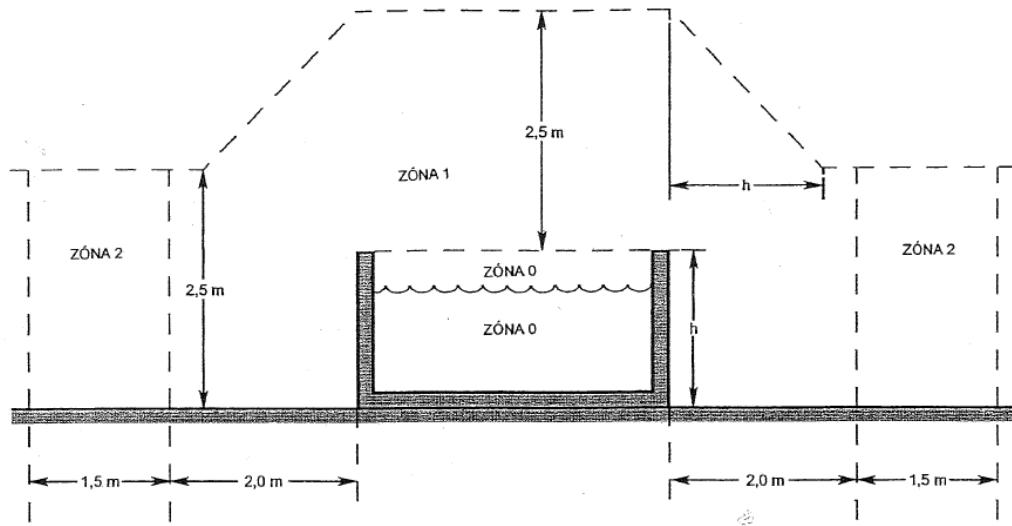

Fig. 5
- Hose devices shall be located outside of the pool protective area (formed by zones 0, 1 and 2) to ČSN 33 2000-7-702 Standard, which extends to the distance of 3.5m from the pool perimeter wall, see Fig. 5.